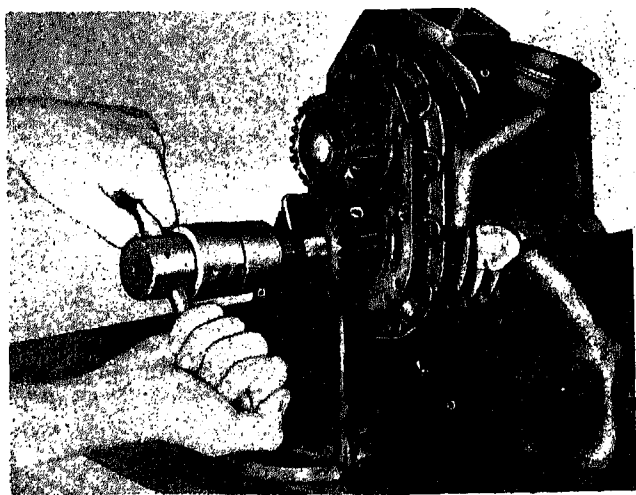

Fig. 10-4-6. Removing rotor shaft locknuts
1. Raise lockwasher flange clear of slot in the shaft nut and remove shaft nut with a shaft nut wrench. Fig. 10-4-6.